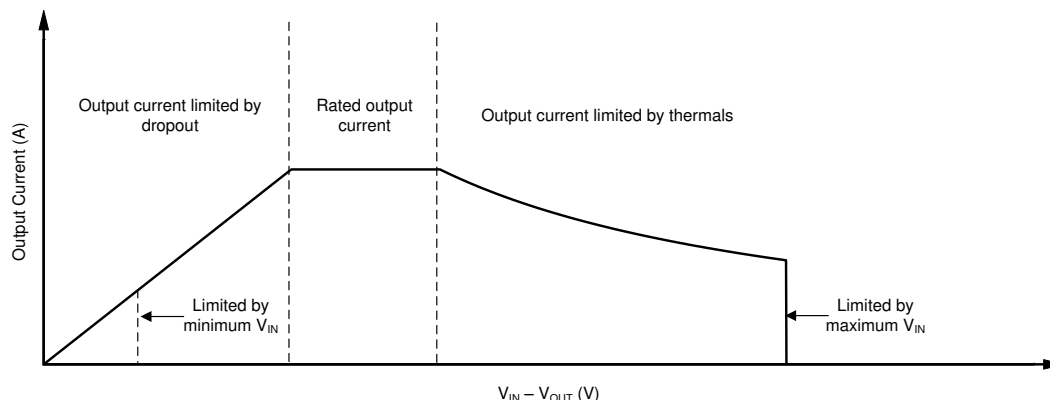

Figure 8-3. Region Description of Continuous Operation Regime
The operational area of an LDO is limited by the dropout voltage, output current, junction temperature, and input voltage. The recommended area for continuous operation for a linear regulator is given in 图 8-3 and can be separated into the following parts:
- The shape of the slope is depicted in the third region of 图 8-3. The slope is nonlinear because the maximum-rated junction temperature of the LDO is controlled by the power dissipation across the LDO. Thus, when  $V_{IN} - V_{OUT}$  increases the output current must decrease.
Figure 8-3 shows the recommended area of operation for this device on a JEDEC-standard high-K board with a  $R_{\theta JA}$ , as given in the Thermal Information table.